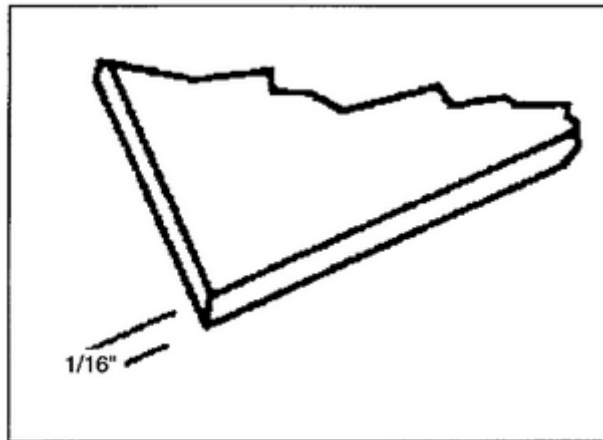

Figure 1-19. Nonferrous grounding plate
- b. Nonferrous (copper or brass) grounding plates must be at least 1/16 inch thick (Figure 1-19).